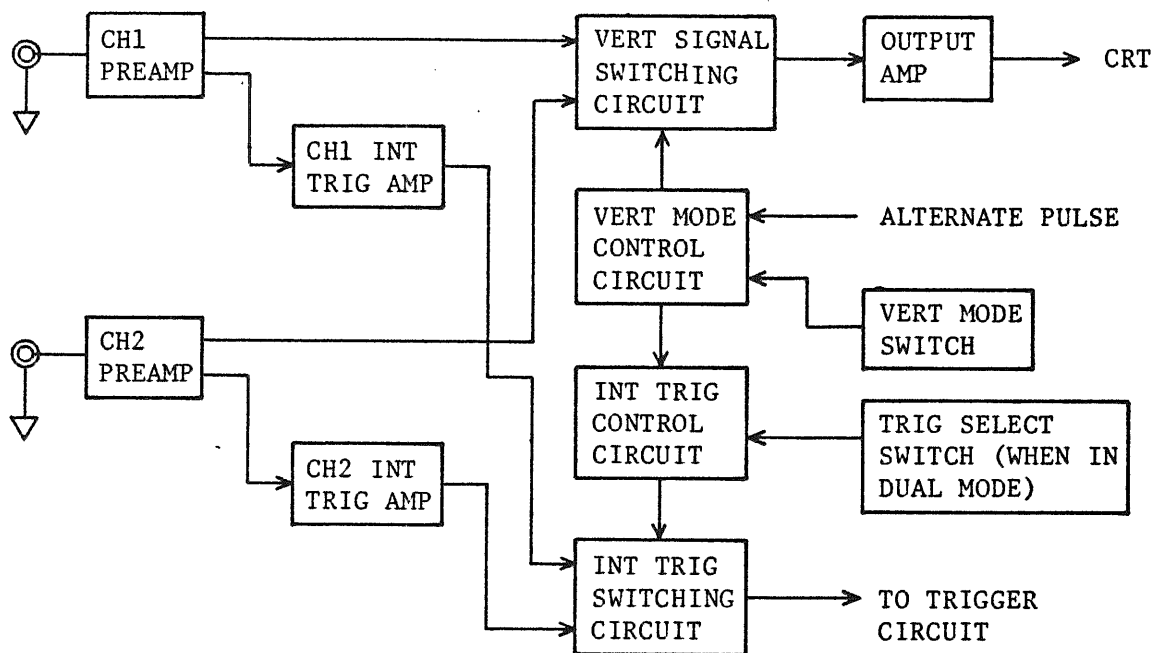

Figure 6
(1) Functions of INT TRIG (internal trigger) switch
The signals applied to the input terminals of CH1 and CH2 are picked off from respective preamplifiers in order to be used as internal trigger signals. When in the single-channel operation, the input signal is directly used as the internal trigger signal. When in the dual-channel operation or the ADD operation, the signal of the channel selected by the TRIG select pushbutton (26) is used as the internal trigger signal. A block diagram of the trigger system is shown in Figure 6.
The signal applied to the vertical input terminal is branched off from a point in the amplifier circuit and is fed to the trigger circuit through the INT TRIG switch. (See Figure 6.) Thus, a very stable waveform can be readily displayed on the CRT screen.